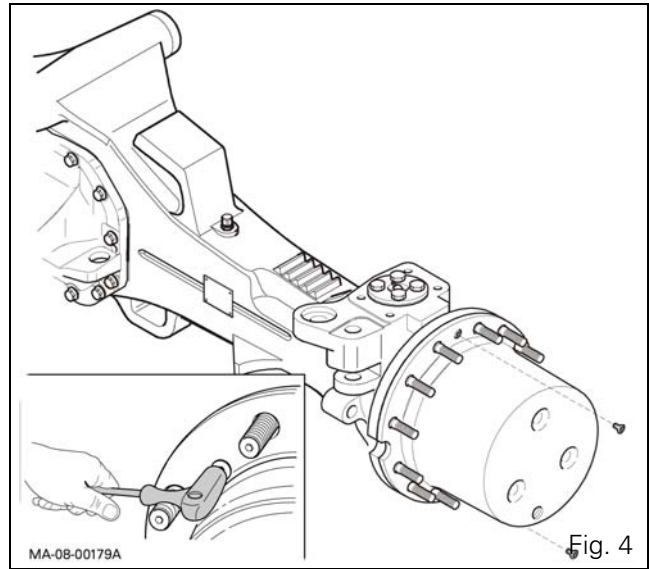

Fig. 4
8. Loosen and remove the two planet carrier attachment screws using a wrench (Fig. 4). Extract the planet carrier from the wheel hub. Place the planet carrier on a workbench and check it for wear.